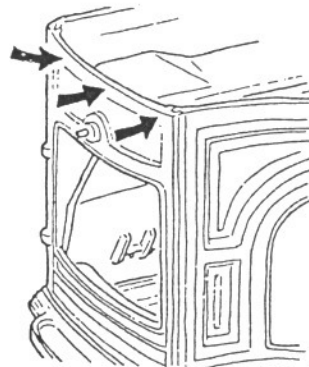

FIG. 12 Install Left End
- Lift the baffle straight up about 1". The top rear corner of the Baffle will slide into a groove on the back of the stove. If you have difficulty lifting the baffle up, check to be sure the slot in the back of the stove is clear of any soot or creosote, and make sure the top of the baffle lines up with the slot. (Fig. 12).